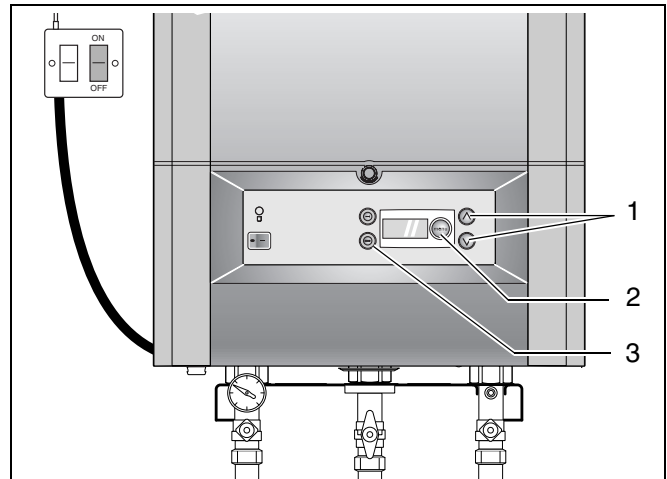

fig. 6 DBA – adjustment arrows
- Press  button (see fig. 6, item 2) once then adjust the DHW temperature to the desired temperature (40 °C - 60 °C) using the  and  keys (see fig. 6, item 1). Factory setting is 48 °C.
- Press the  button (see fig. 6, item 2) twice. The current setting blinks.
- Press  button (see fig. 6, item 2) three times then adjust the flow temperature to the desired temperature (30 °C – 80 °C) using the  and  keys (see fig. 6, item 1). Factory setting is 80 °C.